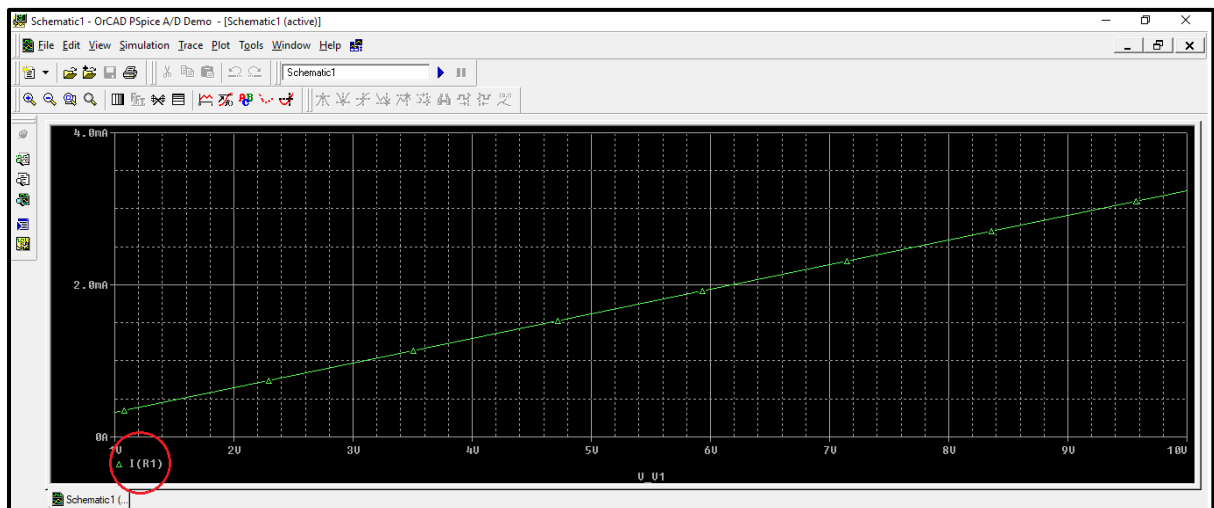

Figure.24
- When you finish selecting variables click on ok, and the trace you selected will be shown in simulation output window as shown in figure.24.